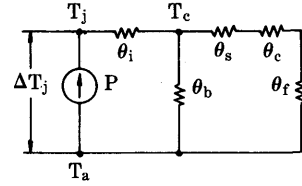

Fig. 2 Radiation Equivalent Circuit
For the path conducting the heat generated in the transistor junction to the outside, thermal movement is supposed to be equal to current, and an electric circuit is substituted for convenience's sake. Consequently, it is expressed by thermal resistance and thermal capacitance. In thermally stationary state, it can be shown by the radiation equivalent circuit in Fig. 2.
The total thermal resistance  $\theta_{ja}$  to the open air, viewed from the junction, is given by expression (15) from the radiation equivalent circuit illustrated in Fig. 2.
The thermal resistance in the radiation equivalent circuit shown in Fig. 2 is explained as follows.